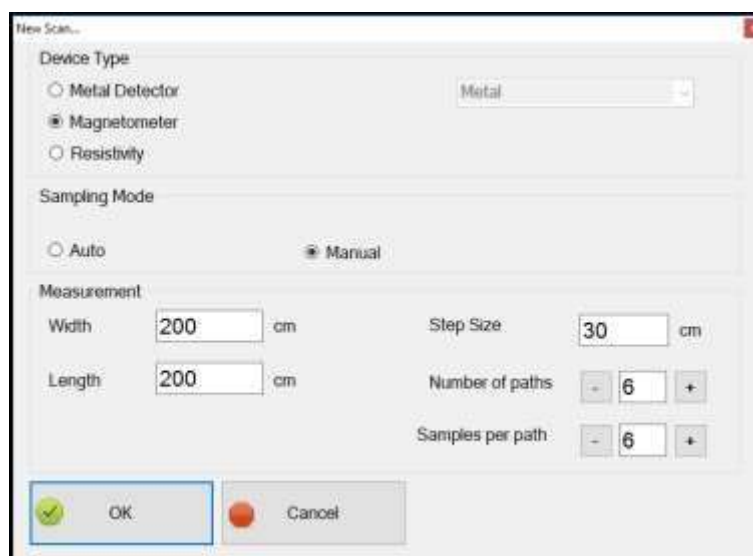

Figure 7
6. The part with the metal detector part Figure 7 in the window that opens should be selected.